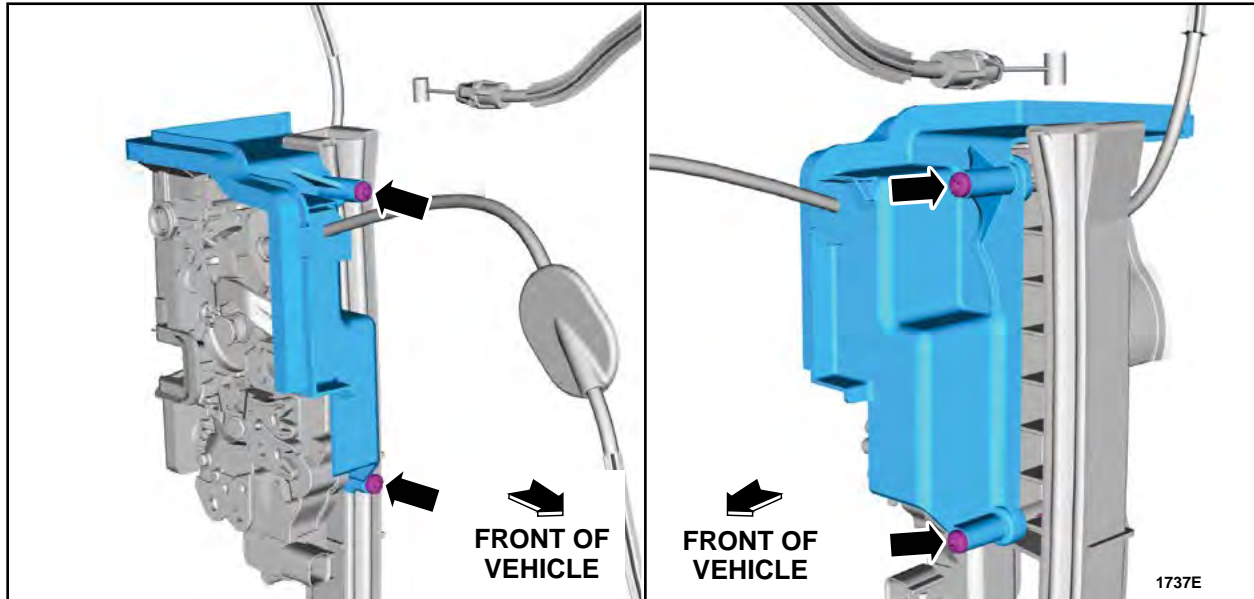

FIGURE 55
5. Install the door latch water shield into position. See Figure 55.
6. Install the *new* screws into the top and bottom holes of the shield. See Figure 55.